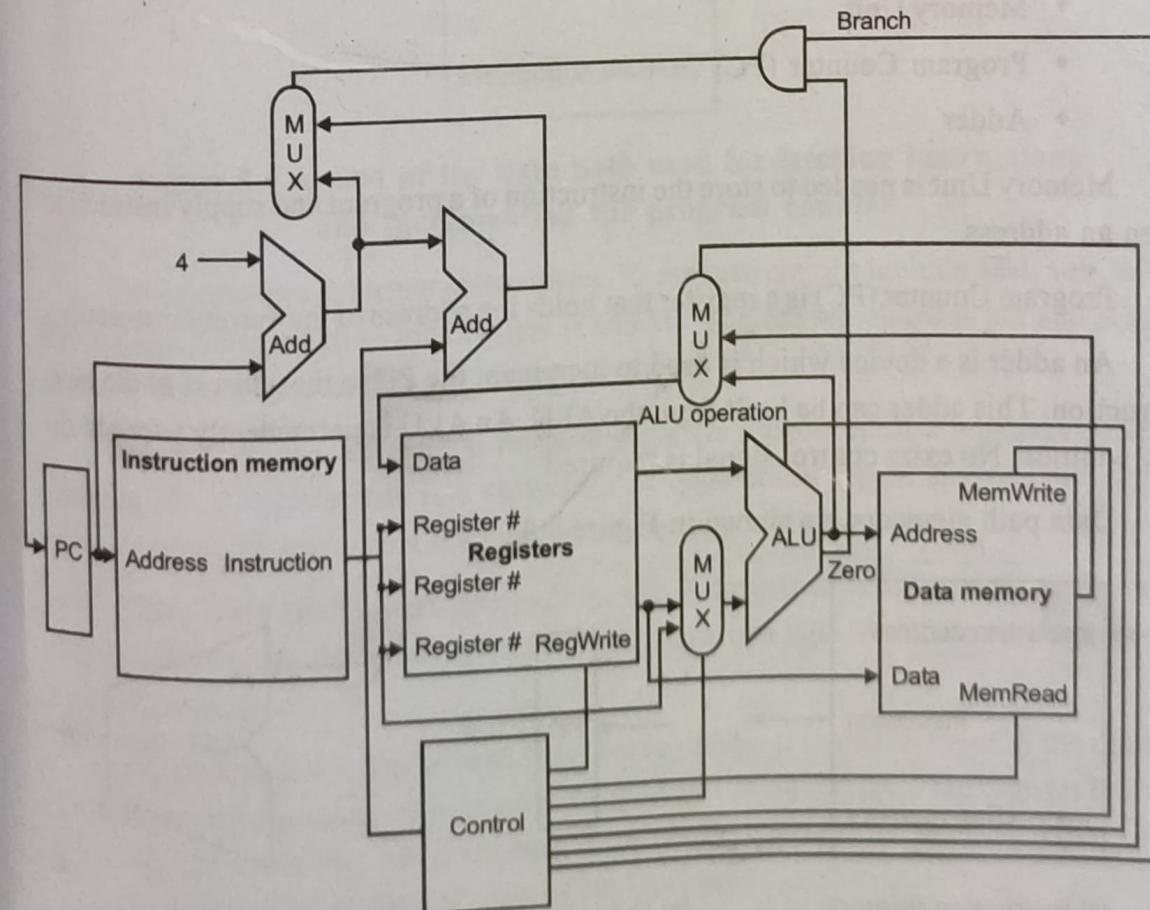

Figure 3.2 The necessary multiplexers and control lines are included in the basic implementation of the MIPS subset
Figure 3.2 shows the datapath of Figure 3.1 with three multiplexers and some control lines for the major functional units. A control unit which has the instruction as an input is used to determine how to arrange the control lines for the functional units and the two multiplexers.
- ◆ The top multiplexer (in the Figure 3.2) controls what value replaces the PC ( $PC + 4$  or the branch destination address).
- ◆ The middle multiplexer (in the Figure 3.2) is used to steer the output of the ALU or the output of the data memory for writing into the register file.
- ◆ The bottom most multiplexer (in the Figure 3.2) is used to determine whether the second input of ALU is from registers or from the offset field of the instruction.